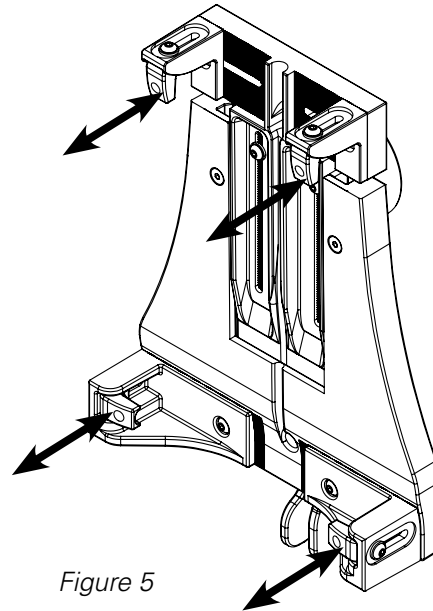

Figure 5
5. Move the depth adjusters in/out to fit the tablet. Use the hex wrench to tighten the screws and set the depth position. Do not over-tighten. (figure 5)